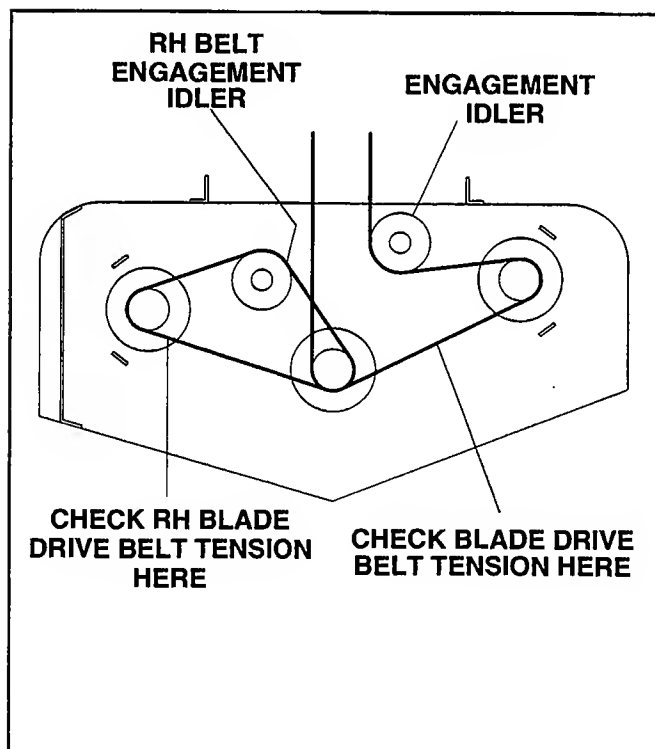
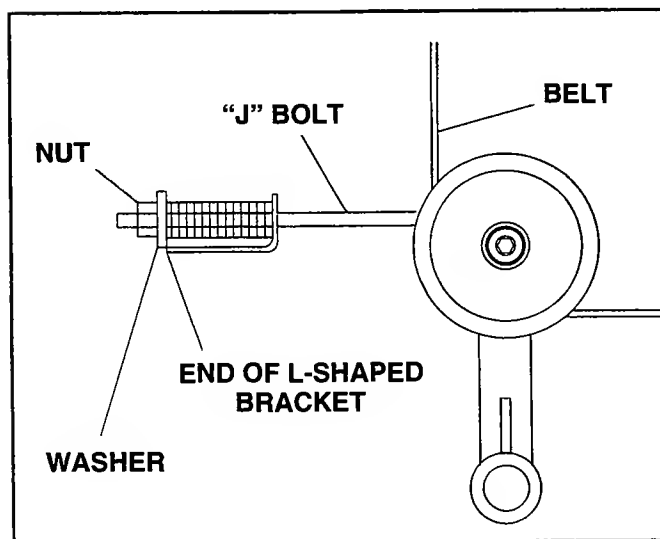
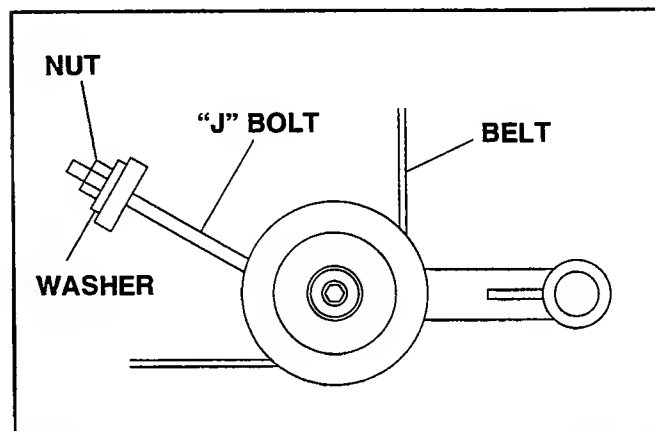

Figure 6
Figure 12
Figure 13
13. Install mower drive belt around engine drive pulley (electric clutch), the center spindle, the idler, and then the left hand spindle. (See Figure 6) Adjust tension by turning nut to end of bracket. (See Figure 12, page 9) Install RH drive belt. Adjust tension by tightening J-Hook. (See Figure 13, page 9)
2. Adjust LH belt tension by tightening idler so that belt moves 1/2" with 10 pounds pressure. Adjust nut to end of L-shaped bracket. (See Figure 12)
3. Adjust RH belt tension so belt moves 1/2" with 10 pounds pressure. Adjust tension by tightening or loosening J-bolt. (See Figure 13)